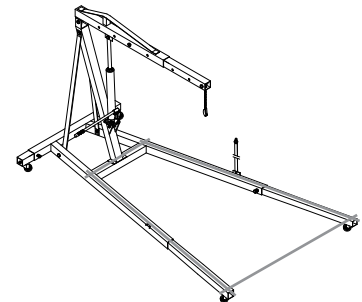

Figure 4
**⚠ WARNING:** Never load the crane with an engine that extends beyond an imaginary line drawn connecting the centerlines of the front and rear wheel/caster axles as shown in Figure 4.